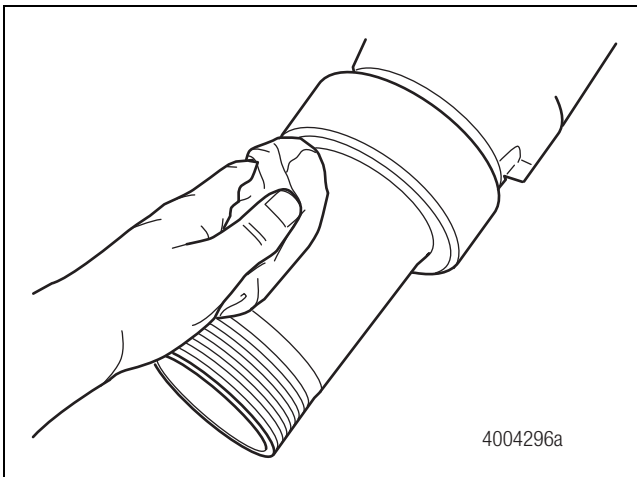

Figure 11
1. Clean the axle spindle and oil seal journal by wiping with a clean rag and using solvent. If needed, these areas can be cleaned using emery or crocus cloth. Figure 11 and Figure 12. Figure 13 and Figure 14 are before and after cleaning examples.